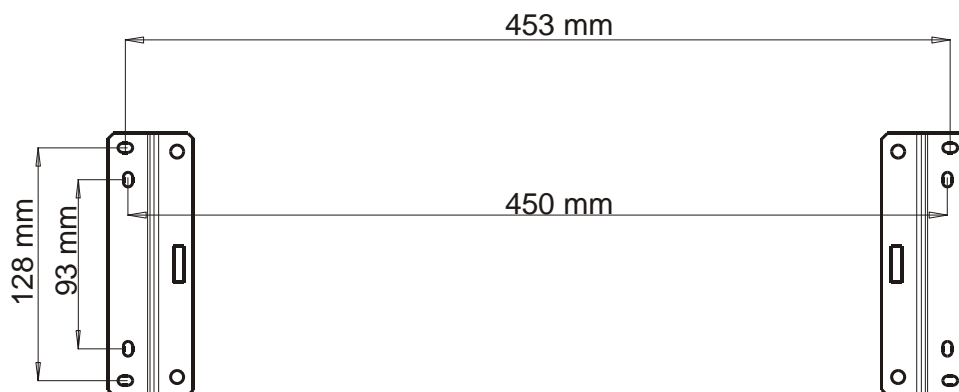

Figure 2-13 RTU Frame Metal Back Installation Dimensions
- 2) Drill four holes into the wall at the horizontal and vertical distances shown in Figure 2-13.